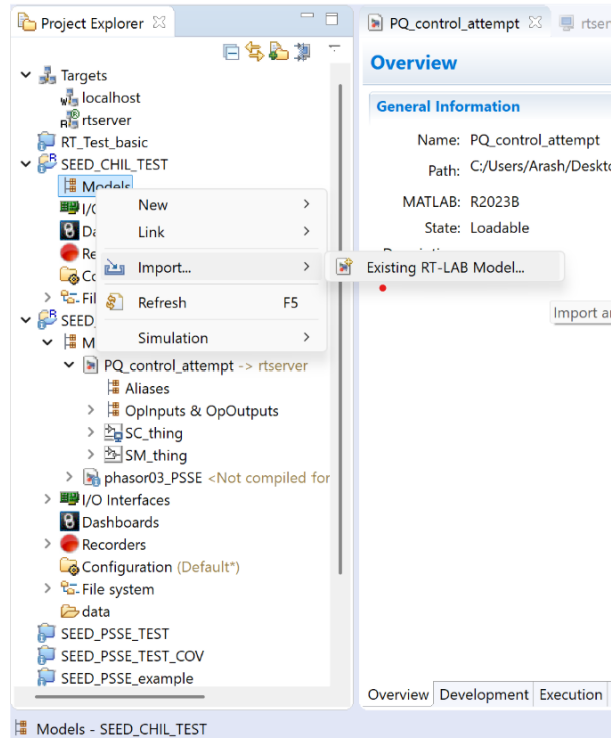

Figure 7: Import Existing Model
- Right-click on “Models” in the menu and select “Import then Existing RT-LAB Model” (Figure 7).